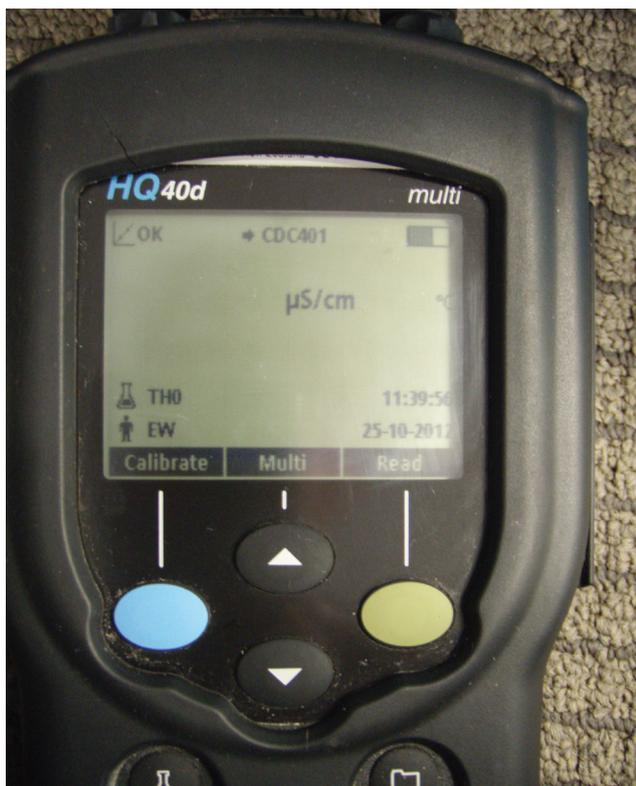

Figure 16. Hach HQ40d Meter in single screen mode for electrical conductivity calibration.
1. Ensure the meter is in Single Read mode by pressing the down arrow. CDC401 will be displayed at the top of the screen and $\mu\text{S}/\text{cm}$ or mS/cm will display as units of measure in the middle of the screen (see Figure 16).